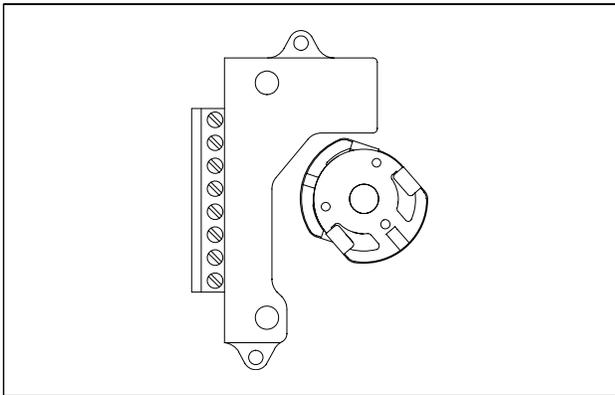

Fig. 4 Cams set for Normally Open function
I. For Normally Open function, Fig. 4
I Valve Closed to Open in counter-clockwise rotation, Fig. 4